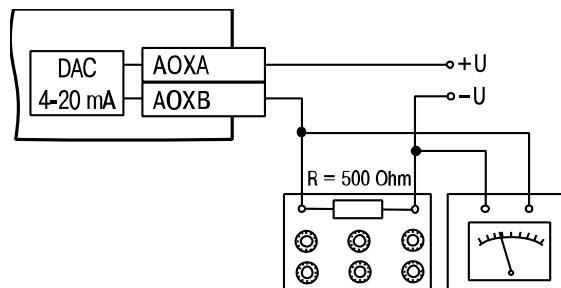

Fig. 6.1 Functional Test
- Connect a voltmeter and a resistor box as shown in Fig. 6.1